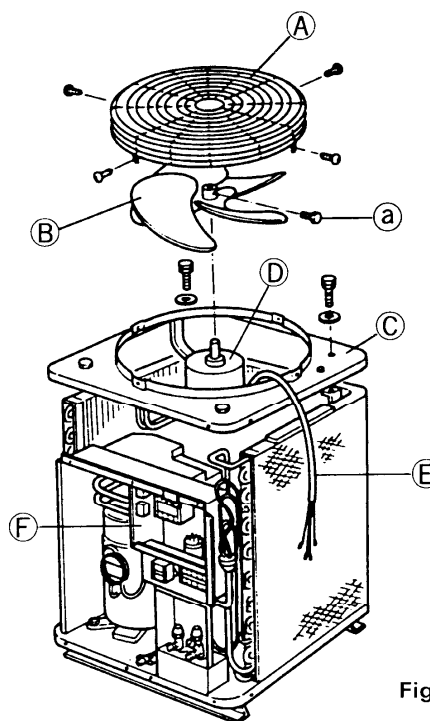

Fig. 18
- 1) Remove the fan (B) and fan motor (D) by lifting up after removing the guard (A) and loosening one screw (a) of the fan.
- 2) Disconnect the fan motor wires (E) from the electrical component box (F) and then, remove the top cover (C) with fan motor. Fig. 18